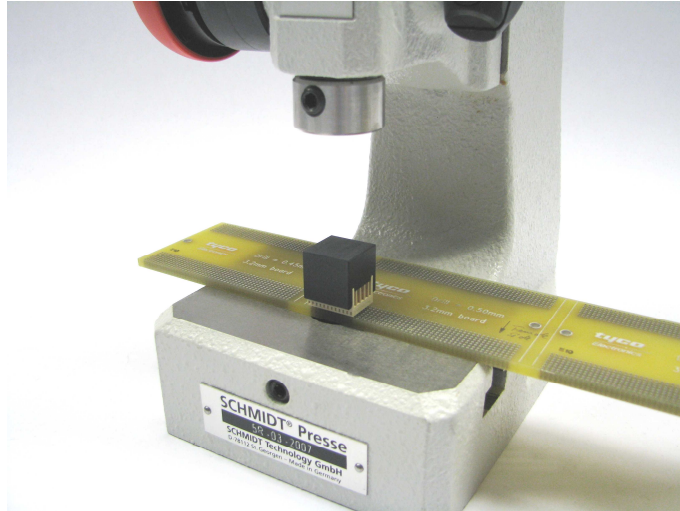

Figure 7
**3.** Now the pc-board with the male connector and insertion block is placed under the stamp of the press (see figure 7).